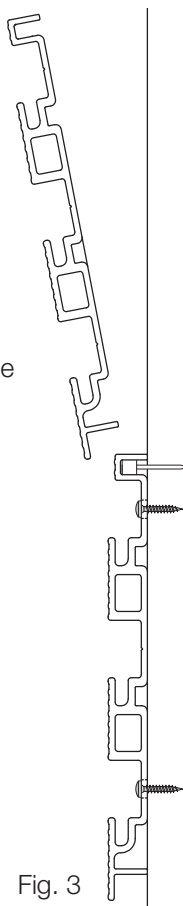

Fig. 3
4. Use Self-Drilling Truss Head screws (792.01.992) to secure Wall Track to the studs. (See Fig. 3)